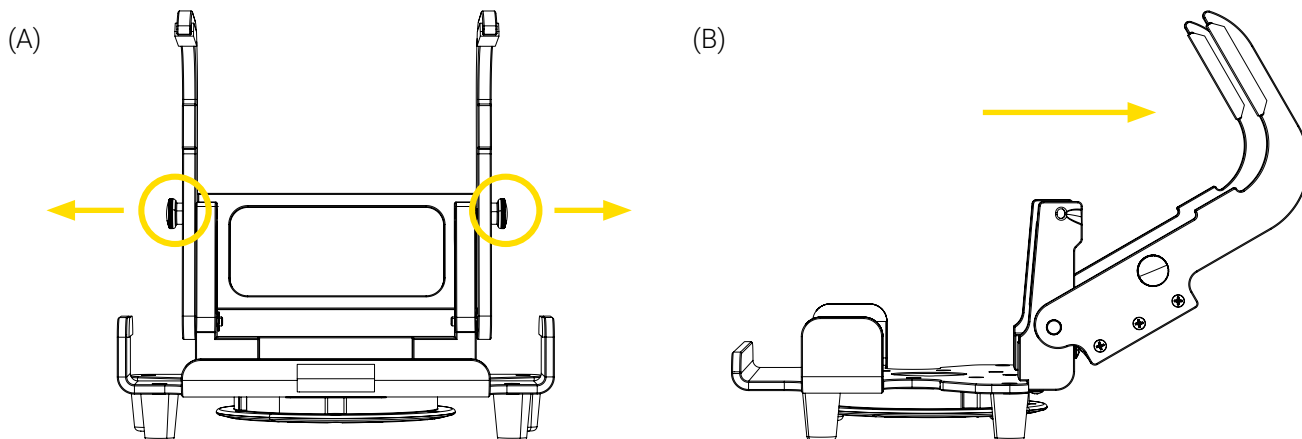

Figure 2: Unlocking/opening the Bracket Pro Serie 60 - SD
1. If the bracket is closed (locked), pull and hold the two (2) quick release knobs to disengage the locking system (Figure 2 A), then push the bar backwards to lower it until it has run its course (Figure 2 B).